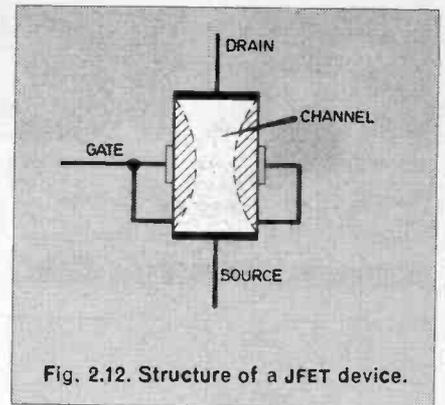

Fig. 2.12. Structure of a JFET device.
**Field effect or unipolar transistors** may be divided into two main types, JFETS and MOSFETS. The junction field effect transistor (JFET) has either a channel of *n*-type or of *p*-type silicon with a gate of the opposite type of silicon formed as a junction as shown in Fig. 2.12.